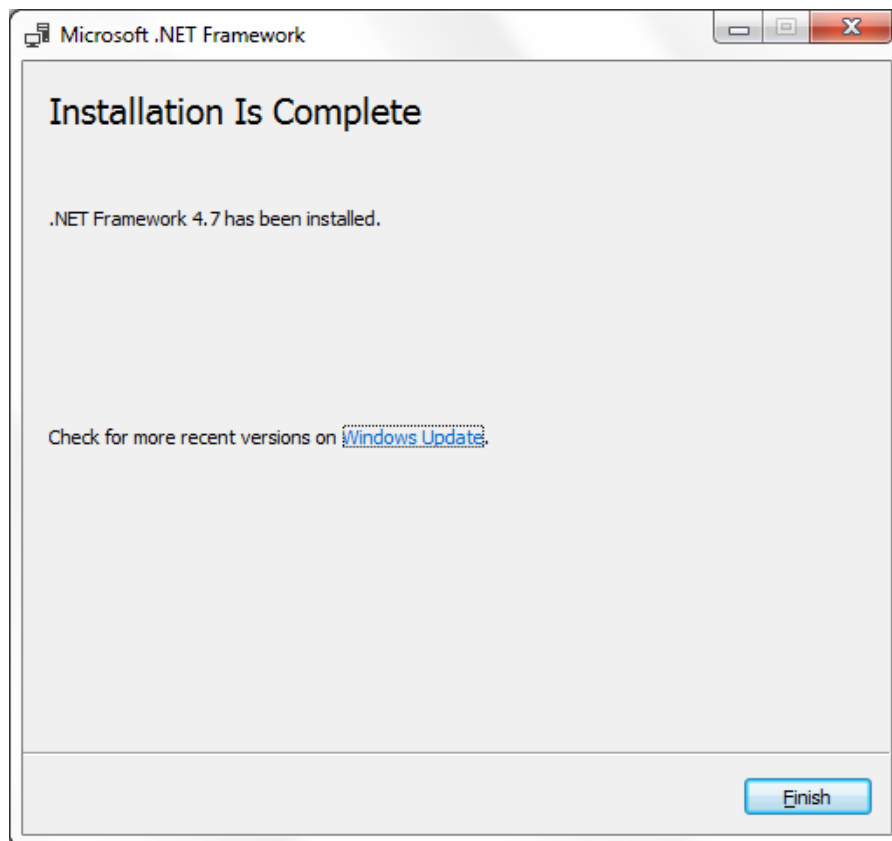

Figure III.1.25: End of installation of Microsoft .NET 4.7.
- Installation is complete. See Figure III.1.25.